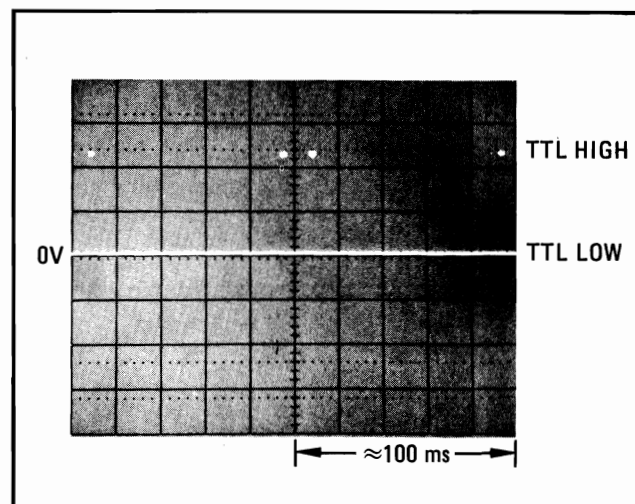

Figure 8-72. Voltage-to-Time Converter Check Waveform C
4. Connect the oscilloscope to A4TP10 (COMP). The waveform should be as shown in Figure 8-72.